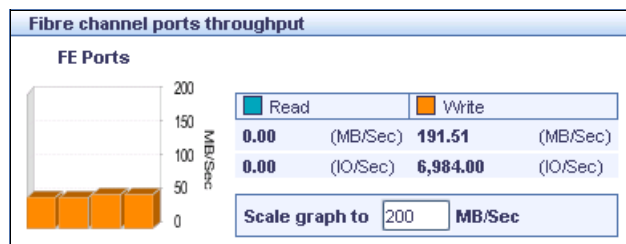

Figure 9-21 Fibre Channel Ports Throughput section, Nodes window in ProtecTIER Manager
The Fibre Channel (FC) Ports Throughput pane displays the rate of data movement and I/O operations for both Read and Write operations for the node (see Figure 9-21 on page 243). The data movement rate is also displayed graphically for each Front End Fibre Channel port